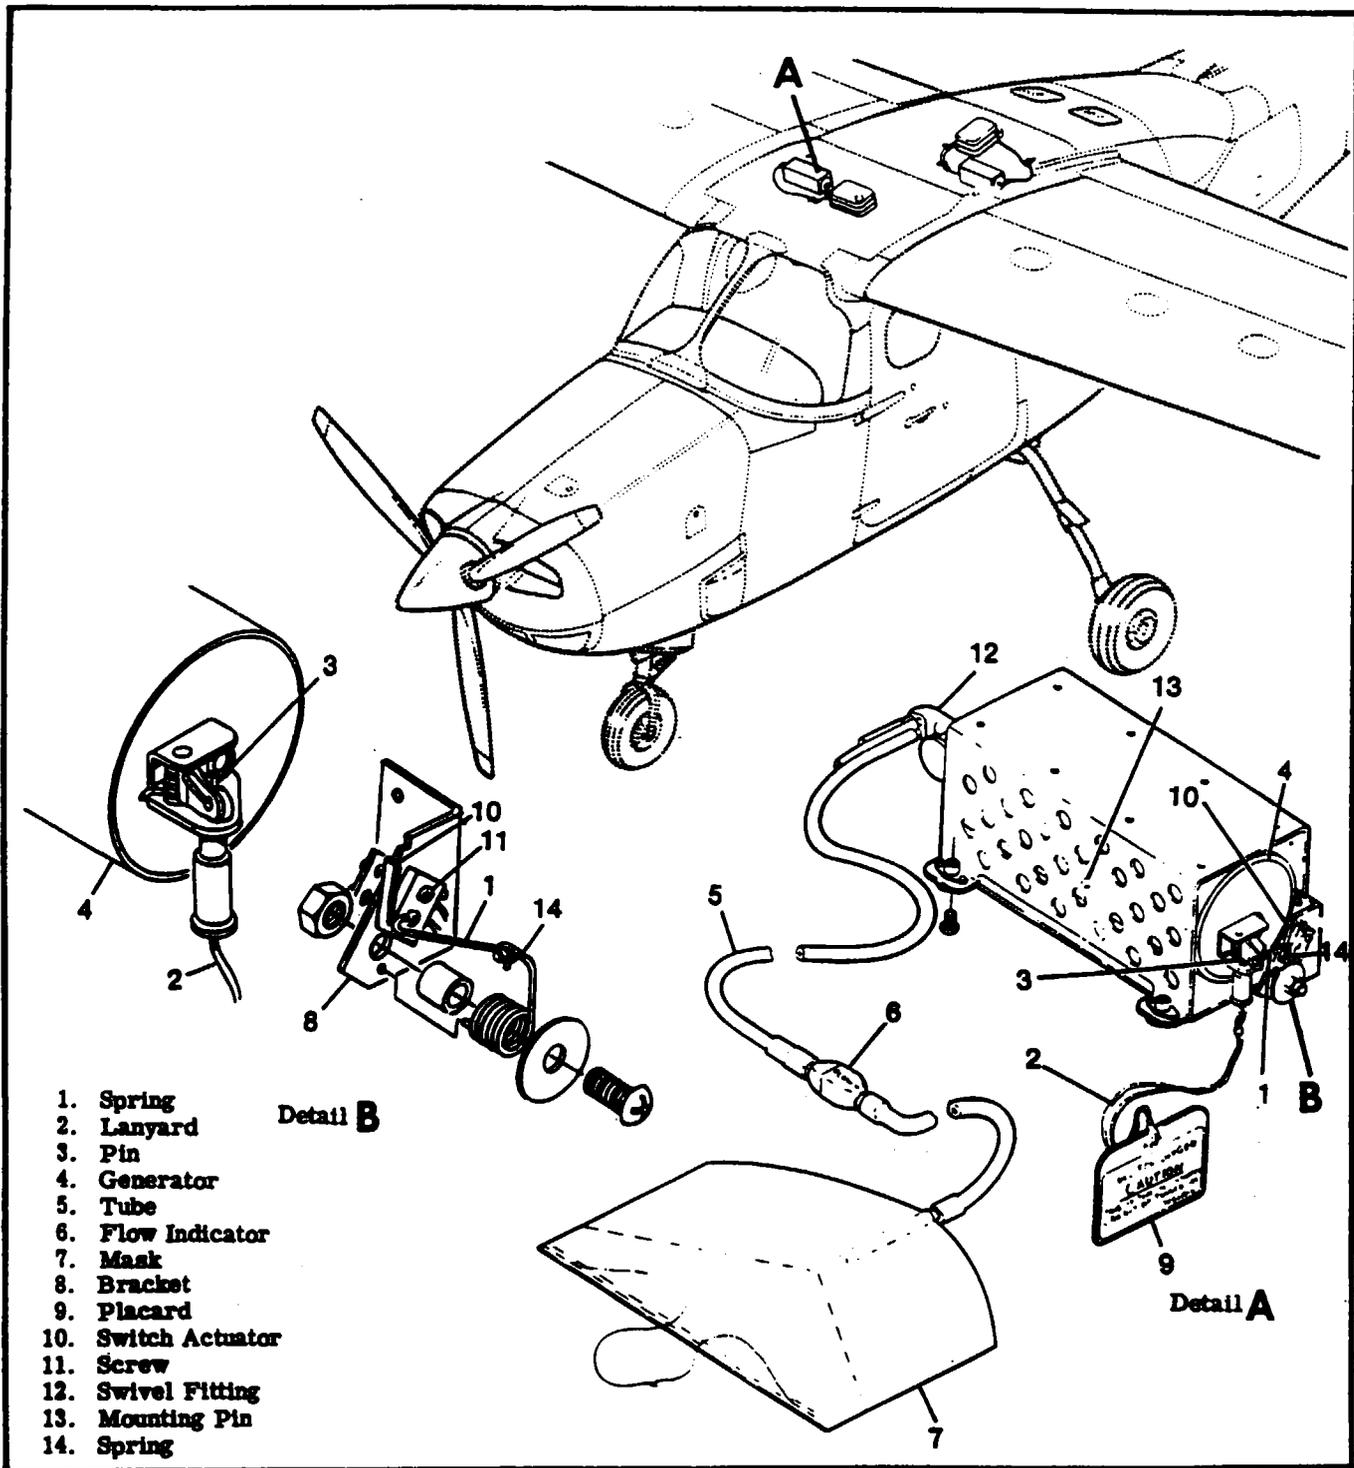

Figure 15-14. Emergency Oxygen System.
15-91. REMOVAL OF OXYGEN GENERATORS AND MASKS. (See figure 15-14.)
15-92. INSTALLATION OF OXYGEN GENERATORS AND MASKS. (See figure 15-14.)
c. Set spring-loaded ignitor firing mechanism to loaded position and connect indicator light mechanism. (Refer to figure 15-14 and paragraph 15-93.)
15-93. OXYGEN SYSTEM INDICATOR LIGHT SWITCH ADJUSTMENT. (See figure 15-14.)